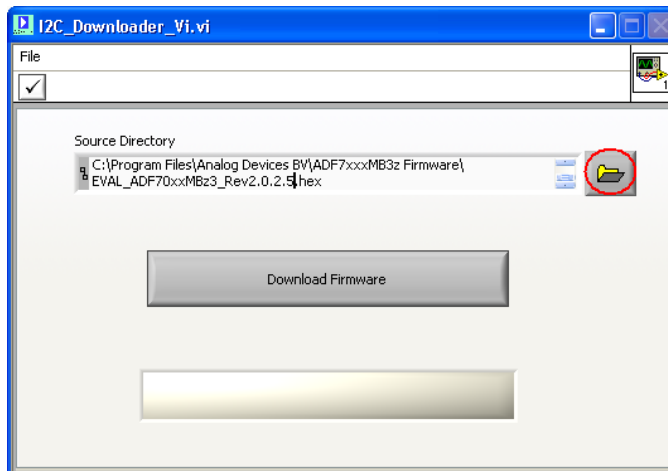

Figure 23
3. Select the desired firmware version “**EVAL_ADF7XXXMB3Z_Rev_2.0.2.5.hex**” from the default directory (Figure 23).